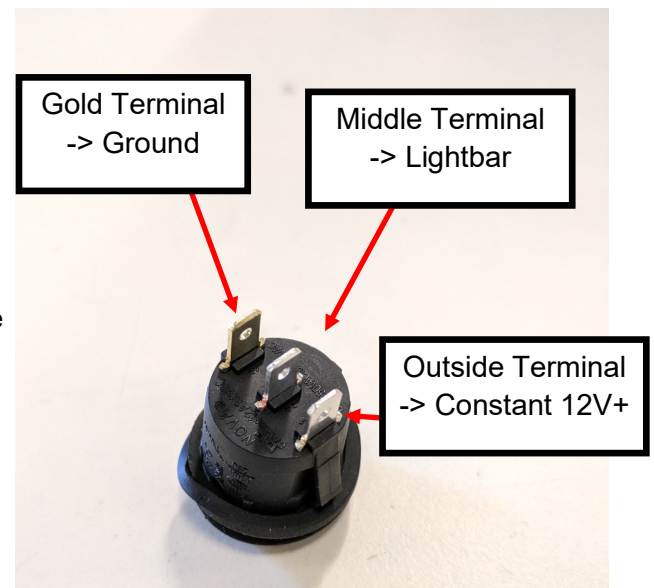

**Figure 4. Mounting bolt in extrusion.**
3. Align the 4 bolts (**Figure 4**) in the extrusion with the slots on brackets and insert.